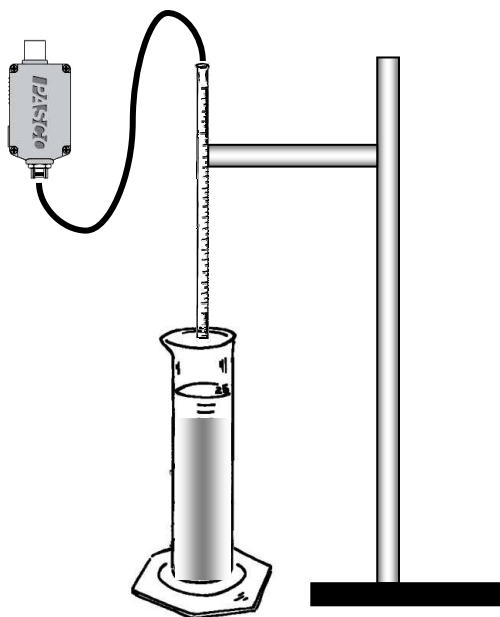

Figure 3: Apparatus for Pressure vs. Depth
1. Set up the apparatus as shown in Figure 3. The pressure sensor is connected to the small diameter glass tube by a small tube with a black rubber stopper on the end. Make sure the stopper is inserted into the flared end of the small glass tube so that air cannot escape through that end. Notice the markings on the glass tube. These markings represent a volume measurement in units of milliliters but you will use them to measure depth.